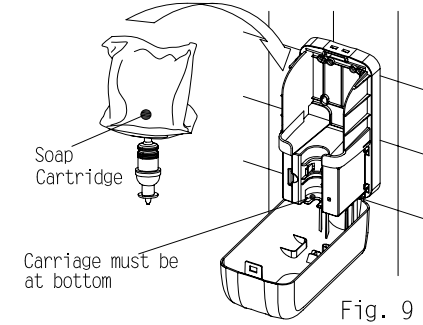

Fig. 9
2. When the soap cartridge is depleted, remove it directly & replace with a new one. (Fig. 9)